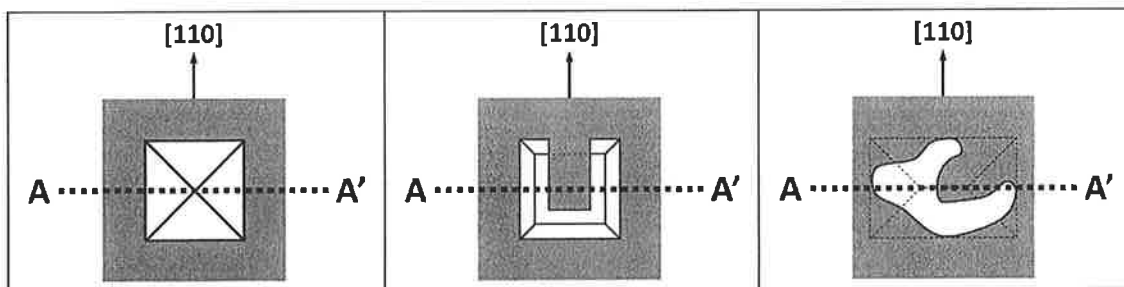

Fig. 4 Anisotropic etching in (100) silicon. White regions indicate mask opening.
- (b) State two thermal oxidation schemes used in IC technology and how they are applied in fabrication of the MOSFET. In less than five lines, explain why the oxidation rate of (111)-oriented silicon is higher than that in (100)-oriented silicon? [6]
- (c) Consider a $\langle 100 \rangle$ Si substrate passivated with a silicon dioxide masking layer as shown in Fig. 4 below. What are the resulting etch profiles if the wafer is subject to a wet anisotropic etchant with fast convex corner etch rates? Show the cross sectional view at A-A' along with the orientation of the resulting crystal planes. [6]